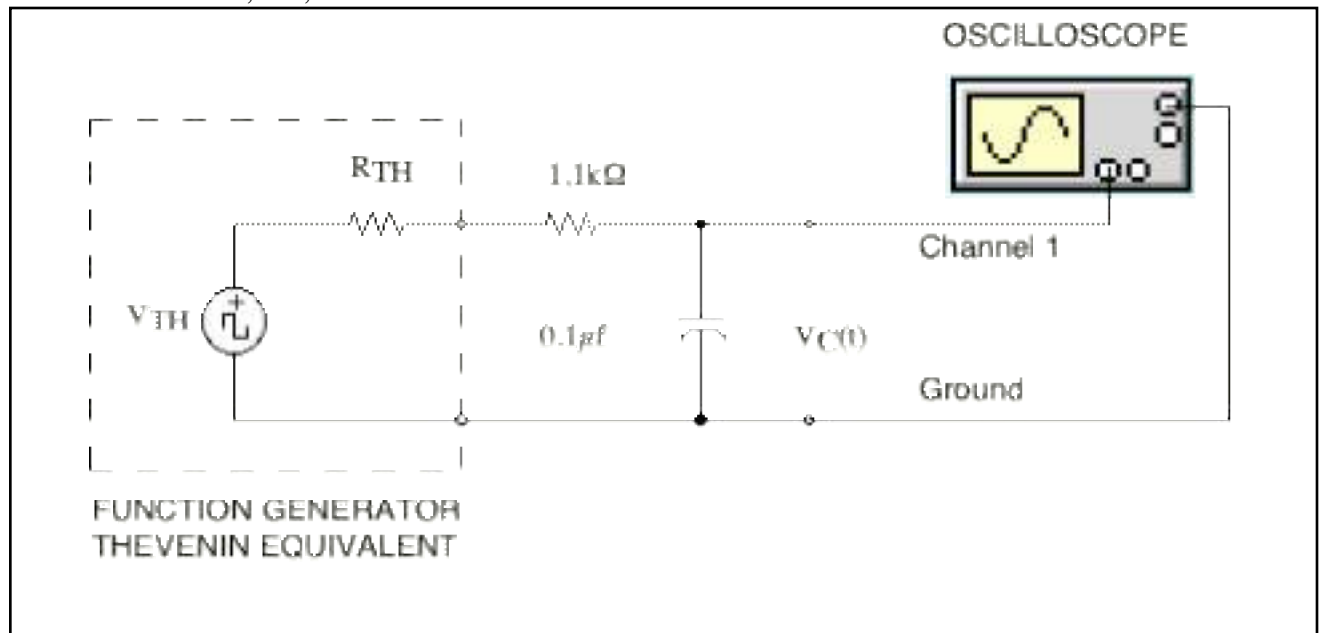

Figure 1. Driven RC Circuit (z=impedance in ohms)
The equation describing the output $v_C(t)$ of the circuit of Figure 1 is of the form:
Determine the output resistance of the laboratory function generator, R_{TH} . This value can be determined from the HP instrument specifications available on the manufacturer's web page (note that HP spun off their Test and Measure unit as Agilent). If you cannot find this data you may assume it is 50Ω but should state that assumption in Data Table 1. Record R_{TH} and your data source in Data Table 1. The Thévenin equivalent model of the function generator is shown in Figure 1.
1. Build the circuit shown in Figure 1 on your protoboard. **Before constructing the circuit** measure and record the EXACT value of your resistor and capacitor. Use a DMM to measure the value of your resistor. Record this value in Data Table 2. Use the digital capacitance meter, available at lab station 12-03 near the resistor drawers, to measure the capacitance of the capacitor you use in your circuit. Also record this value in Data Table 2.